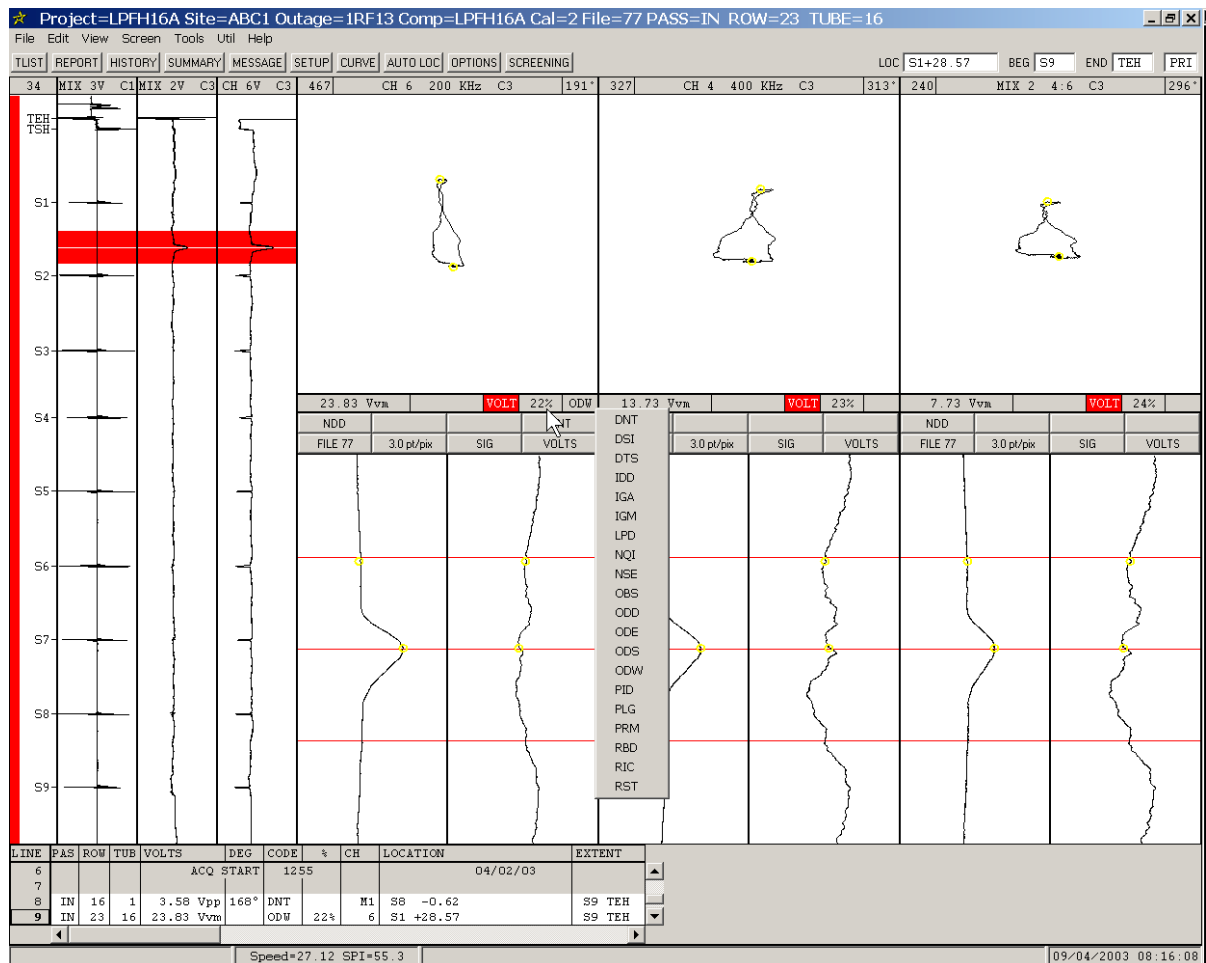

Figure 1-33. Selecting a Defect Code From the Popup List & Making a Call
STEP 21: As shown in Figure 1-33, select **ODW** from the popup list.